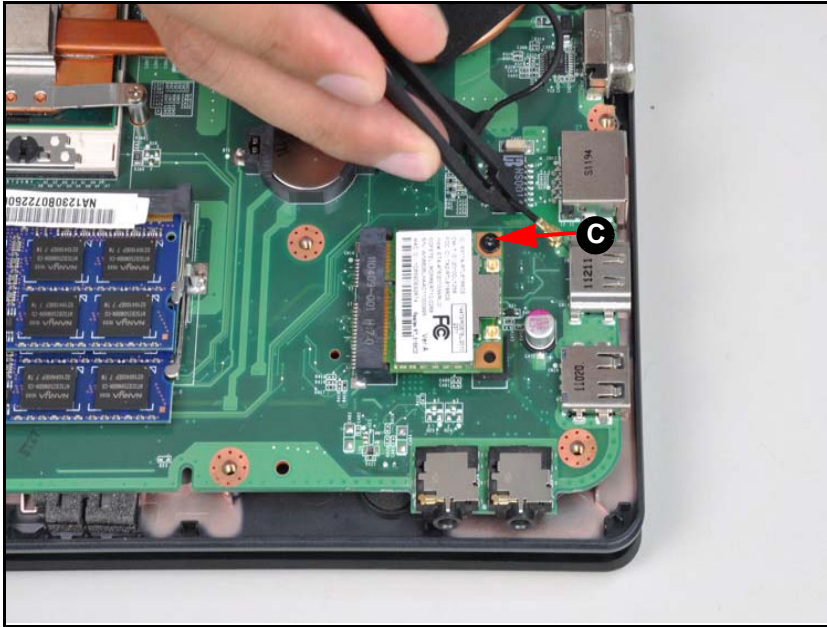

Figure 3-19. WLAN Module
3. Remove one (1) screw (C) from the mainboard. Refer to Figure 3-19.
3. Install and secure one (1) screw (C) to mainboard. Refer to Figure 3-19.